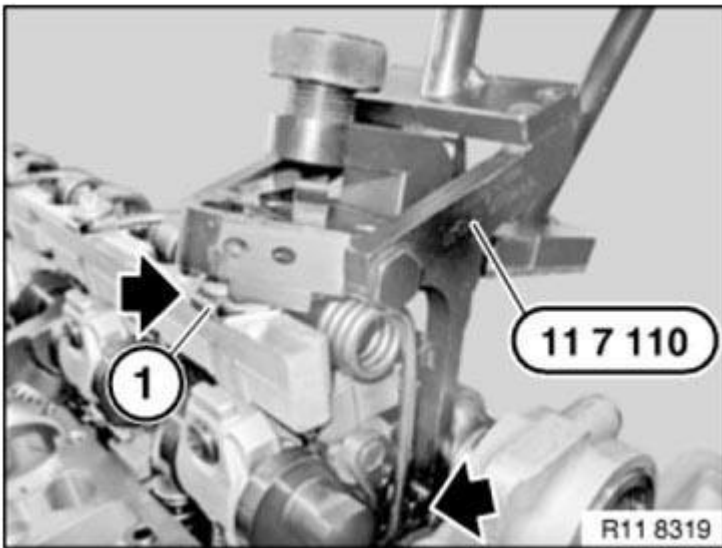

Fig. 586: Positioning Special Tool (11 7 110) On Return Spring
Position special tool 11 7 110 on return spring (1) (see arrows in **Fig. 586**).